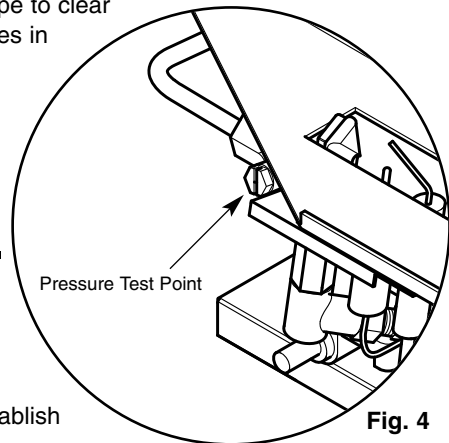

Fig. 4
1. Unscrew the pressure test point sealing screw (Fig. 4) and fit a manometer. Consult the user instructions (page 13). Ignite the appliance and turn to the high position.